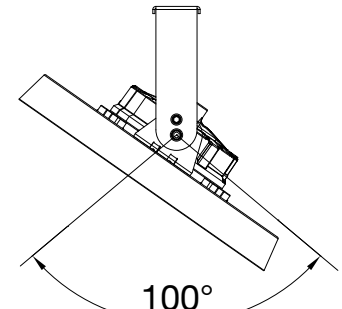

FIGURE 7
4. After installation, connect the wire of the fixture to the mains according to local wiring rules, ensure the connection is stable and protected on the connection. By adjusting the brackets screws, users can adjust 50° to the left or right vertically. (Figure 7)